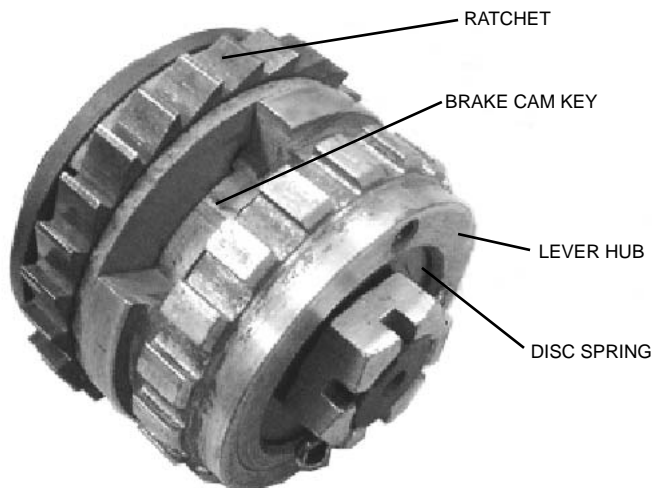

Figure 9. Brake Parts
- D. Apply a light film of Anderol #786 (Nuodex, Inc.) to the inside diameter of the Lever Ratchet Hub and place on top of the second friction washer as shown in Figure 9.
- F. Assemble Brake Cam onto shaft then insert Brake Cam Key (640-110) rounded end first - the key must be positioned as shown in Fig. 9.